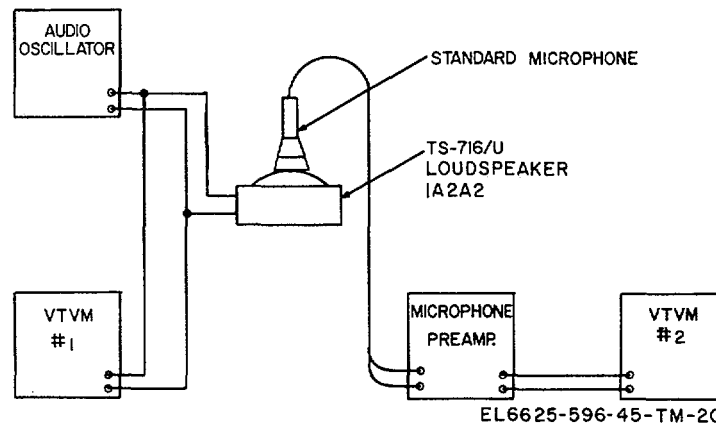

Figure 6-5. Driver frequency response test setup.
b. Connect the equipment as shown in figure 6-5.